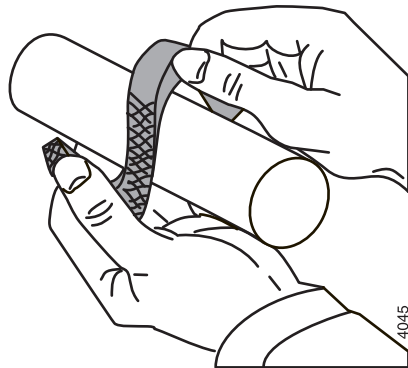

Figure 23: Axially bending open packing rings.
- 1 Fit the 5 packing rings. Place the packing rings with the openings offset. The packing rings may only be bent open axially, see figure 23.